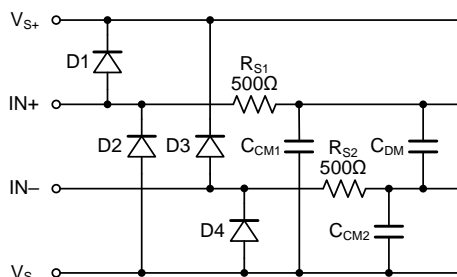

Figure 1. Input EMI Filter and Clamp Circuit
Figure 1 shows the input EMI filter and clamp circuit. The LTC8725/LTC8727 and LTC8726 comparators
Infrared (IR) communication is inherently immune to RF interference as long as there is a line-of-sight path between the transmitter and the receiver. It is also one of the lowest cost communication schemes. This makes it a good choice for implementing wireless communications in applications such as utility metering. A common system topology to extend battery life is to use a power efficient IR receiver analog front end (AFE) that is always on and wakes up the host only when there is a valid IR signal detected as shown in Figure 1.
Figure 1 shows the IR receiver system block diagram. The host MCU is normally in the shutdown mode (during which the quiescent current is less than 1 µA) except when data is being transferred.